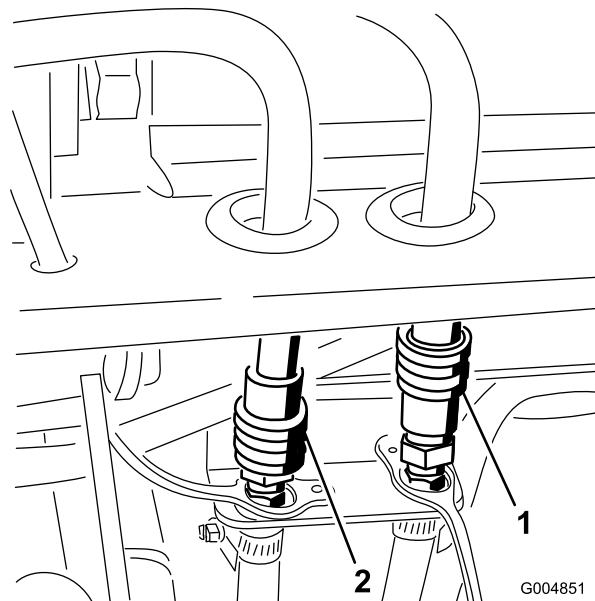

Figure 52
26. Connect the cab pressure and return hoses to the quick couplers on the rear frame mount (Figure 52).